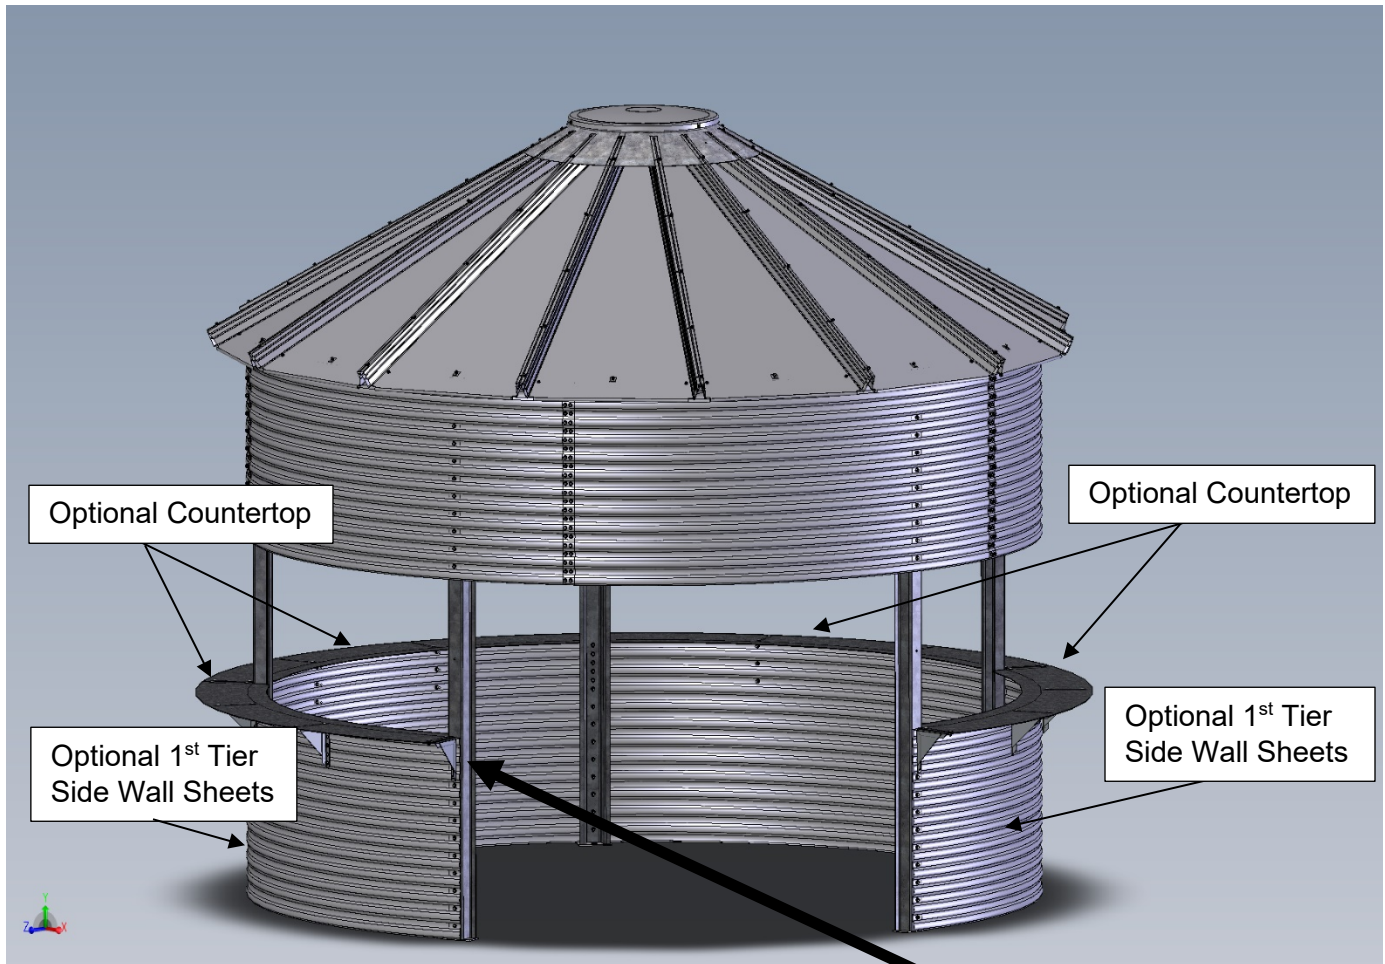

Figure 4-26: Install Optional 1st Tier Side Wall Sheets
1. If ordered, install the optional 1st Tier Side Wall Sheets with hardware provided. See Fig. 4-26.
2. Install optional countertop brackets and countertop to 1st tier side wall sheets. See Fig. 4-26.